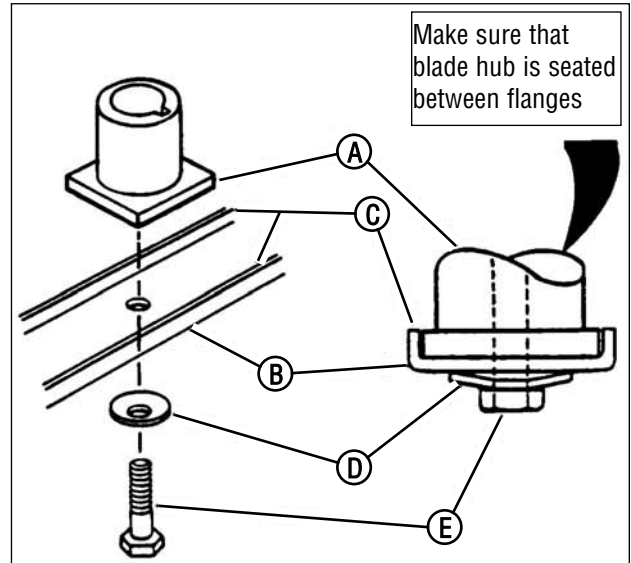

Figure 16: Removing the mower blade
3. Remove the blade (B, Figure 16).
6. Reinstall blade (B, Figure 16). Note the correct assembly order:
- (A) Blade hub
- (B) Blade
- (C) Blade flange (facing up)
- (D) Cone washer (concave side up)
- (E) Capscrew